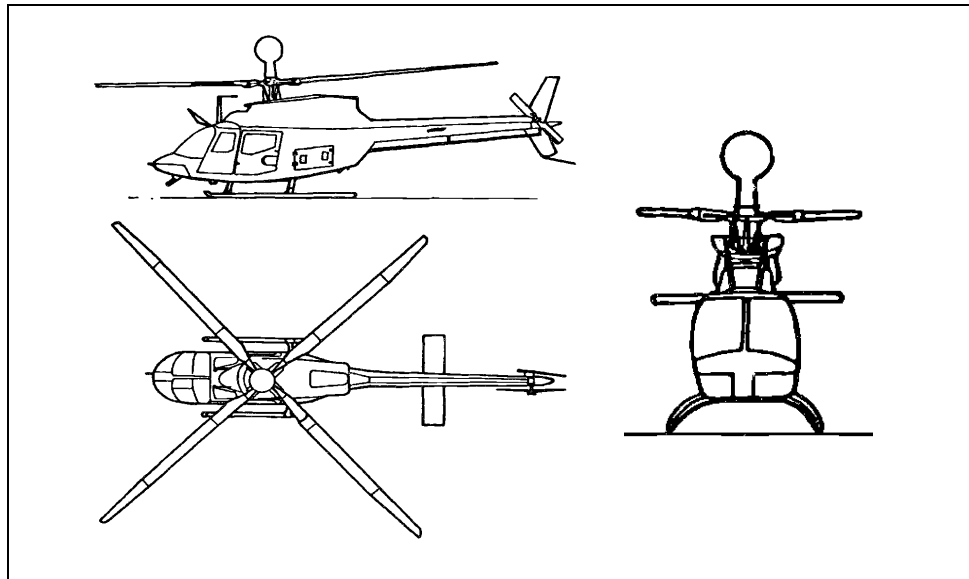

Figure B-1. OH-58D (Kiowa).
a. **OH-58D Kiowa.** Table B-1 shows specifications for the Kiowa; Figure B-1 shows the aircraft from three angles: